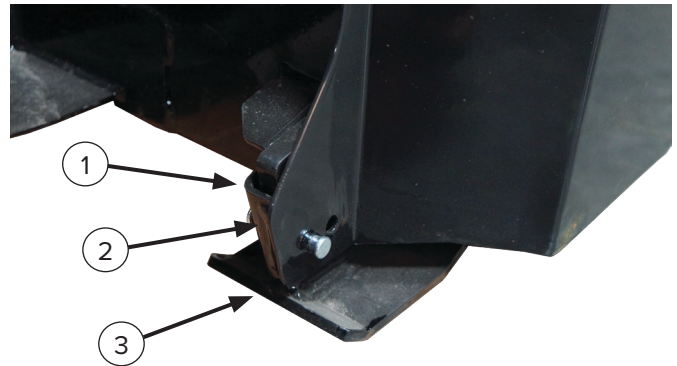

Figure 7
5. Remove the retaining pin (Item 1), pin (Item 2), and the skid pad (Item 3) [Figure 7].
Remove the retaining pin (Item 1) and pin (Item 2) then adjust the skid pad (Item 3) [Figure 7] to the desired height and install pin and retaining pin.